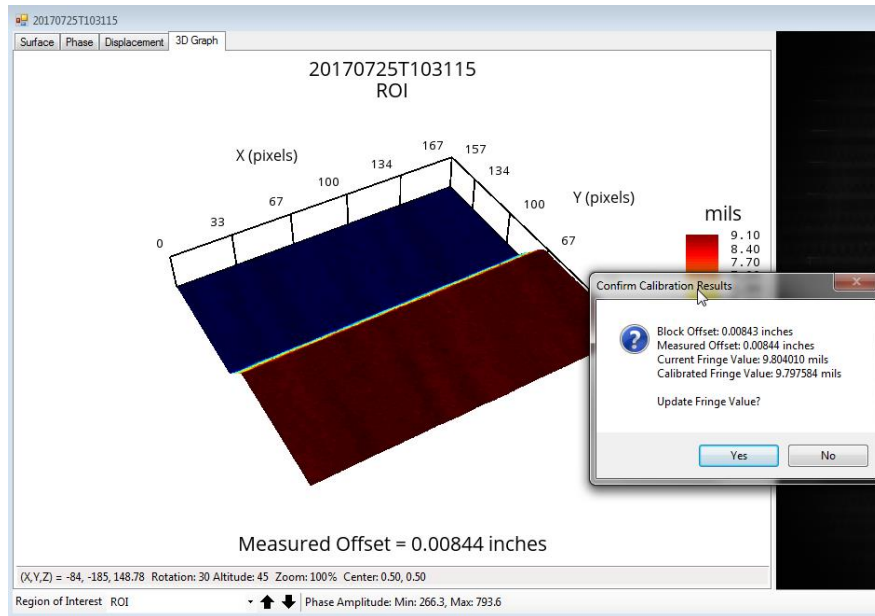

Figure 2.35 Fringe Value Result
- Right click within the ROI and click **Acquire...** The calibration process is initiated and a result window pops up afterward (**Figure 2.35**), showing the user entered